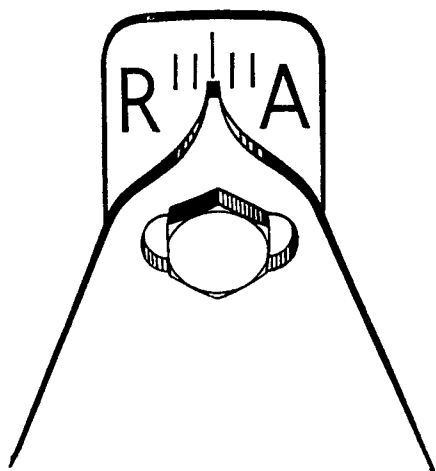

FIG. 19
10. Turn the distributor body, with clamp and indicator (Fig. 19) one graduation anti-clockwise towards R and tighten timing plate setscrews.